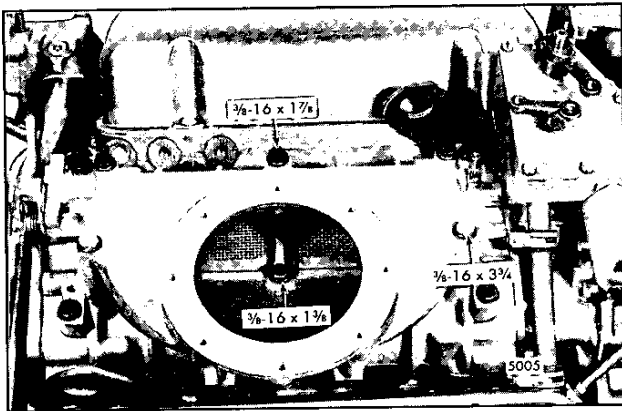

Fig. 4 - Location of Air Shutdown Housing Mounting Bolts (6V Engines)
2. Refer to Fig. 4 and mount the air inlet housing on the blower and secure it with bolts, washers and lock washers. Tighten the bolts to 16-20 lb-ft (22-27 N·m) torque.